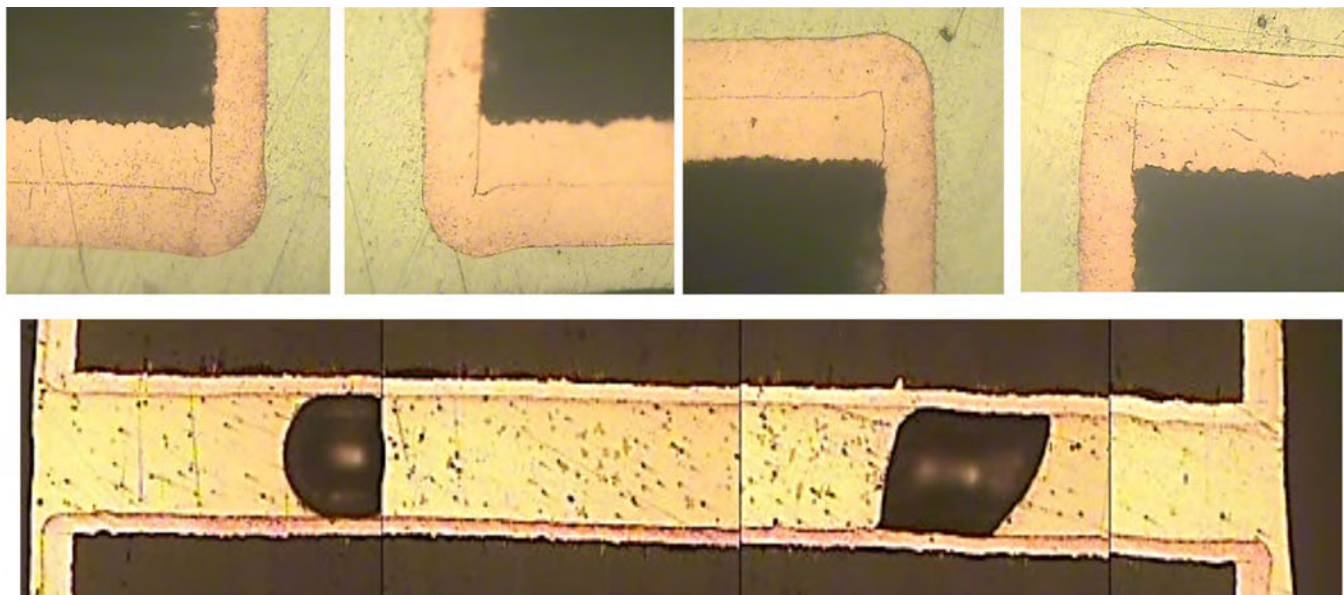

Figure 7: 6X thermal shock test.
Further, to evaluate thermal characteristics of the deposit, the 6X solder shock resistance test was performed on plated through-holes in accordance with IPC TM-650 2.6.8. Solder shock (SS) conditions were 10 seconds float at 288°C for six times on the same side of the test coupon. Results are shown in Figure 7. After 6X SS testing, no corner cracks, barrel cracks, or hole wall pull-away was observed.